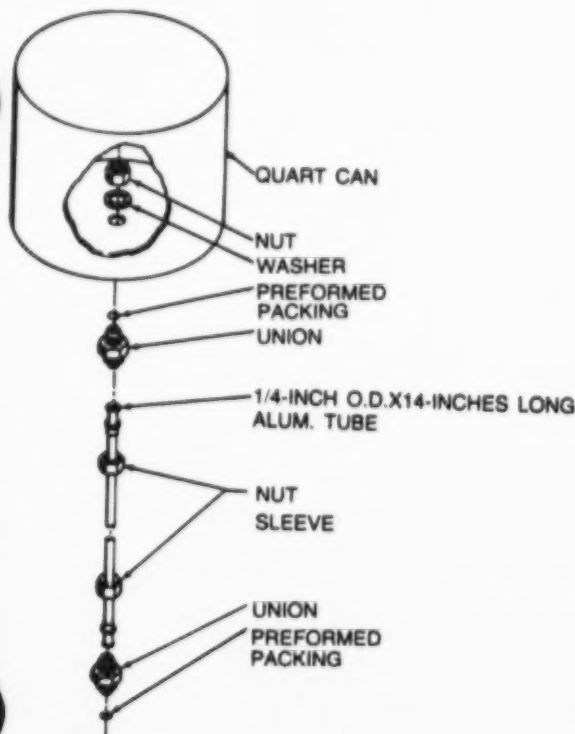

Figure 5-21B
(2) If the cell is made by Uniroyal or is not Goodyear BTC-39 construction, no further inspection is required. Install access cover, cap or fuel quantity transmitter. If any or all fuel cells are of Goodyear BTC-39 construction series or are of unknown manufacturer or construction, the following test and inspection is to be performed.
(3) Examine the lower surface of the wings and nacelles for signs of fuel stains, particularly around vents, fuel outlets, drain and interconnect nipples.
(4) Drill and tap a 7/16 inch 20 UNF threaded hole in the top of a standard fuel cap. Assemble the fuel cap standpipe assembly as shown in figure 5-21B.
(5) Fill the fuel system with fuel.
(6) Install the fuel cap standpipe assembly on one wing.
(7) Turn the fuel selector valve OFF.
(8) Plug all pressure relief vents and recessed vents on one wing.